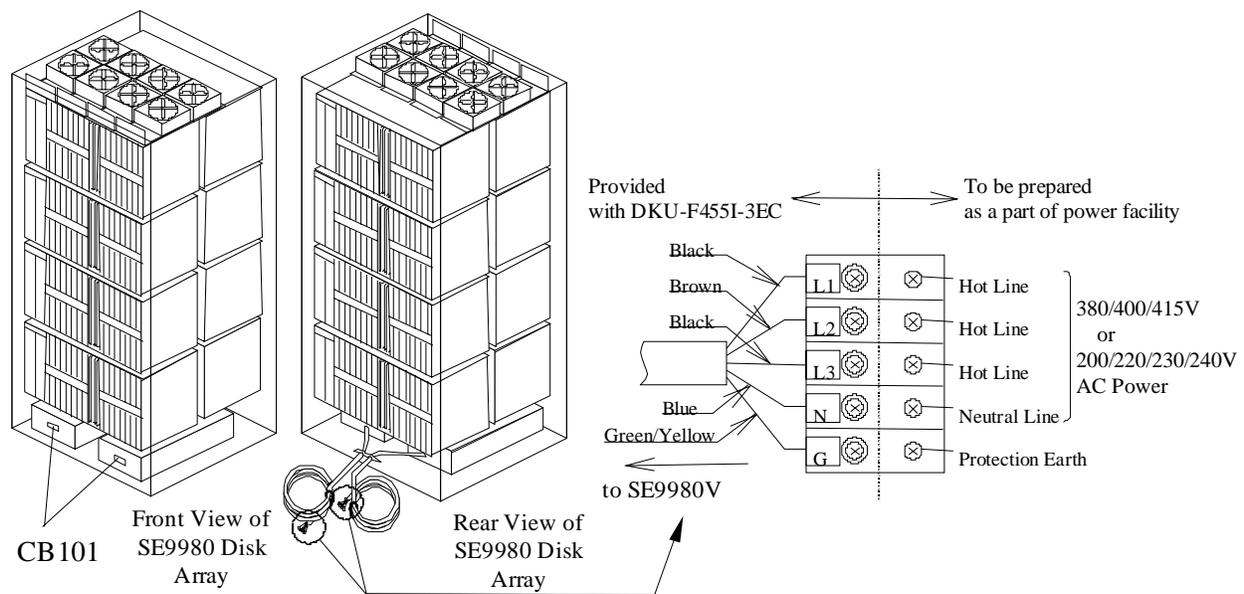

Figure 26 Power Plugs for Three-Phase Sun StorEdge 9980 Disk Array Unit (Europe)
- Figure 26 illustrates the power plugs for a three-phase Sun StorEdge 9980 disk array unit (Europe).